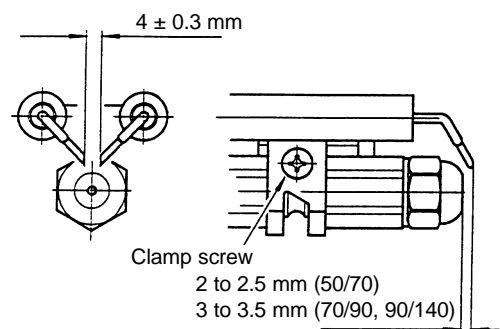

Fig. 35 (70/90 & 90/140 RDB shown)
Riello burner - Electrode tips approximately 4 mm apart and 2 to 2.5 mm (50/70) or 3 to 3.5 mm (70/90, 90/140) in front of the nozzle, see Fig 35.
- Nozzle** - Check that the nozzle size and type are correct, refer to tables in sections 2.2 or 2.3 and boiler data label. Clean the nozzle with kerosene if necessary. **Do not** use a pin or piece of wire to clean the nozzle. Replace the nozzle if a build up of carbon is present. With the combustion head removed (Riello burner) or the burner assembly split (EOGB burner, see paragraph 2 above), loosen the electrode assembly clamp screw and slide the electrodes away from the nozzle. Remove the nozzle using a good fitting spanner (16 mm). The use of an ill-fitting spanner will damage the nozzle and could lead to an incorrect flame pattern. Always check the electrode settings (and nozzle to combustion head position for EOGB burner) after replacing the nozzle, see Fig. 35 or 36.